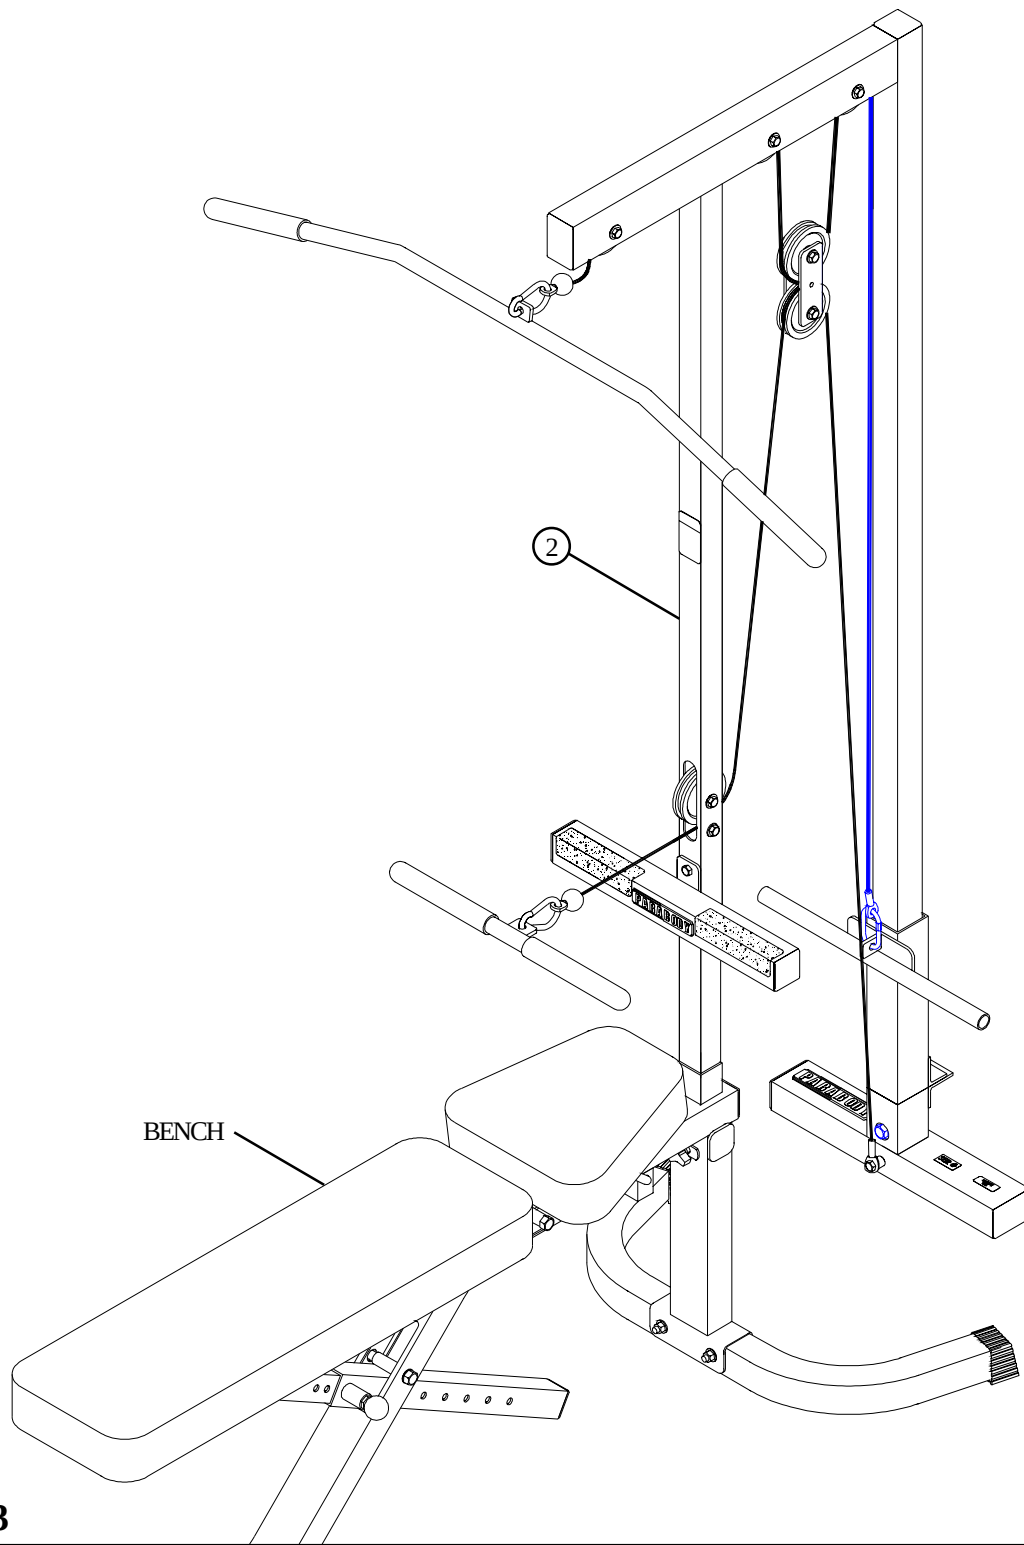

FIGURE 13
- Insert the UPRIGHT (2) of the 848 into the bench as shown in FIGURE 13.